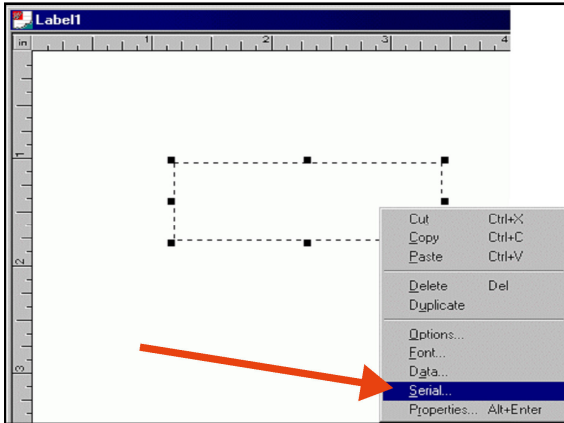
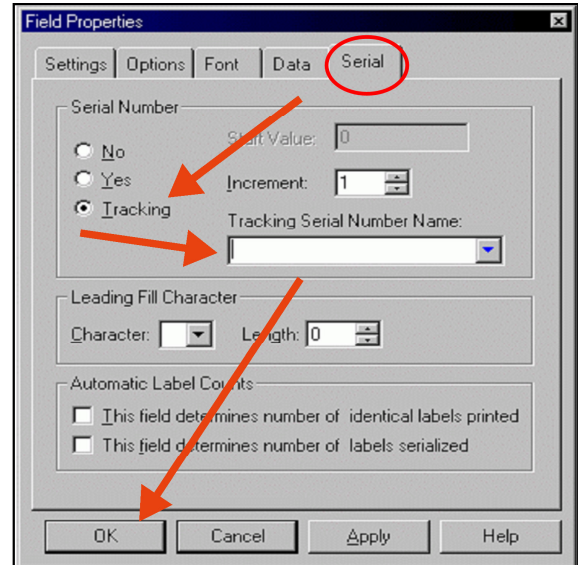

Figure 4-17a
Figure 4-17b
4.4.1. Right-click a field on the label and select **Serial** from the quick-pick men. Figure 4-17a) The **Field Properties** dialog box opens with the **Serial Numbers** tab activated. (Figure 4-17b)